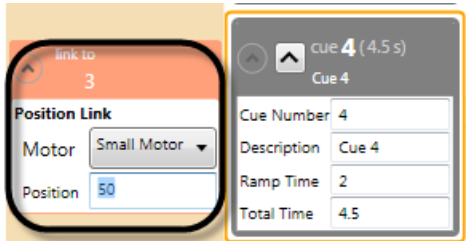

Figure 245
3. The new link will appear in the left margin next to the **Child Cue**. Select the **Motor** from the **Parent Cue** and enter a position that will trigger the link (Figure 245).